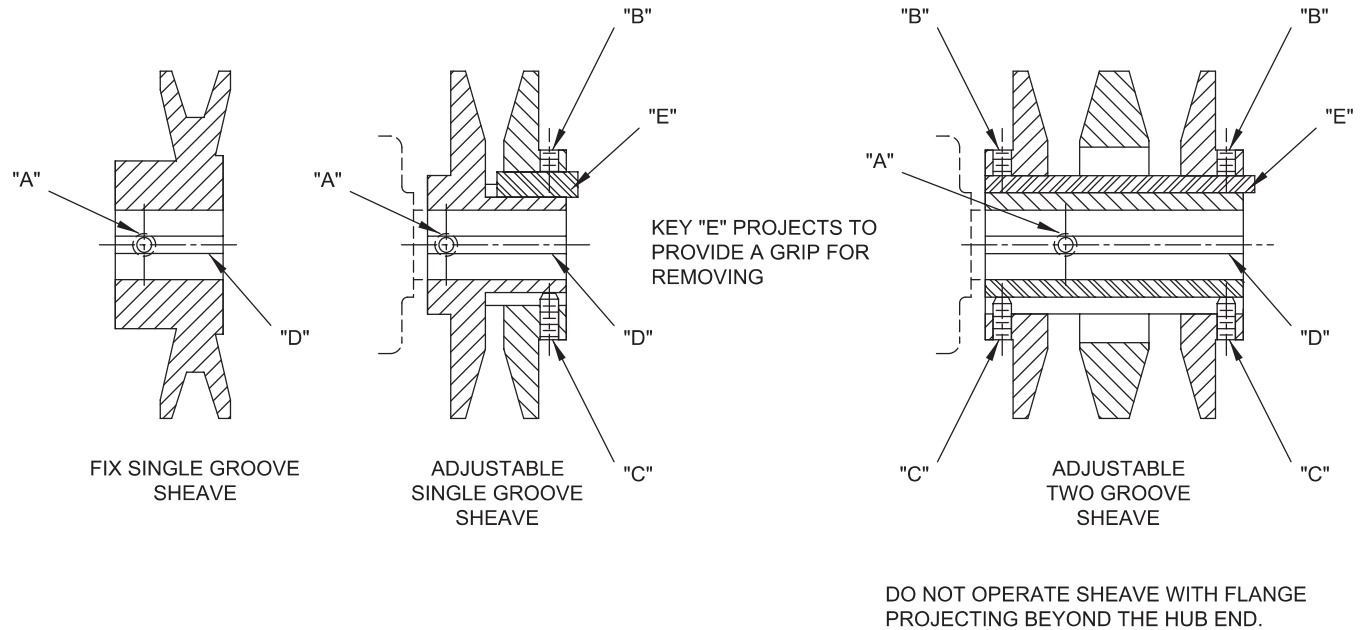

FIGURE 11 - MOUNTING SHEAVES
3. All straight bore sheaves should be mounted on the motor or driver shaft with setscrew (A) toward the motor (see Figure 11 on page 25). The sheave should be close to the motor as possible with setscrew (A) in full contact with the key.
(Provided on motor only). See *Figure 11 on page 25*.